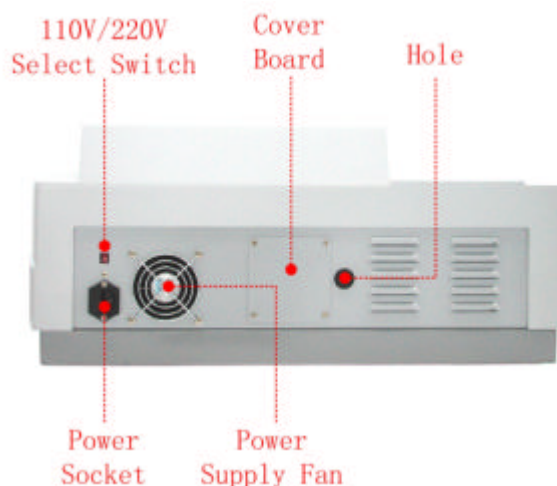

Fig1
The UNICO UV-2802 model spectrophotometer (Fig 1) is a single beam, general purpose instrument designed to meet the needs of the Conventional Laboratory, The UNICO UV-2802 model spectrophotometer is ideal for various applications, such as: Chemistry, Biochemistry, Petrochemistry, Environmental Protection, Food and Beverage Labs, Water and Waste Water Labs and other fields of quality control and research.
Turn on spectrophotometer by pressing the Power Switch (IO)(see Fig1). The instrument starts to initiate and the steps are as below: